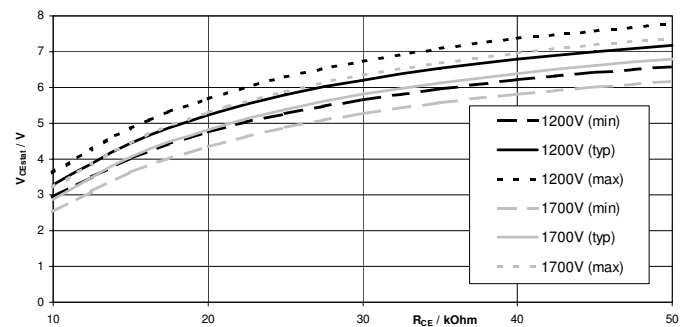

Fig. 4  $V_{CEstat}$  in dependence of  $R_{CE}$  ( $T_{amb} = 25^{\circ}C$ )
2. Calculate approximate value of  $R_{CE}$  according to equation (1) or (1.1) from  $V_{CEstat}$  or determine  $R_{CE}$  by using fig.4.
3. Determine  $t_{min}$  and calculate  $C_{CE}$  according to equations (2) and (3).